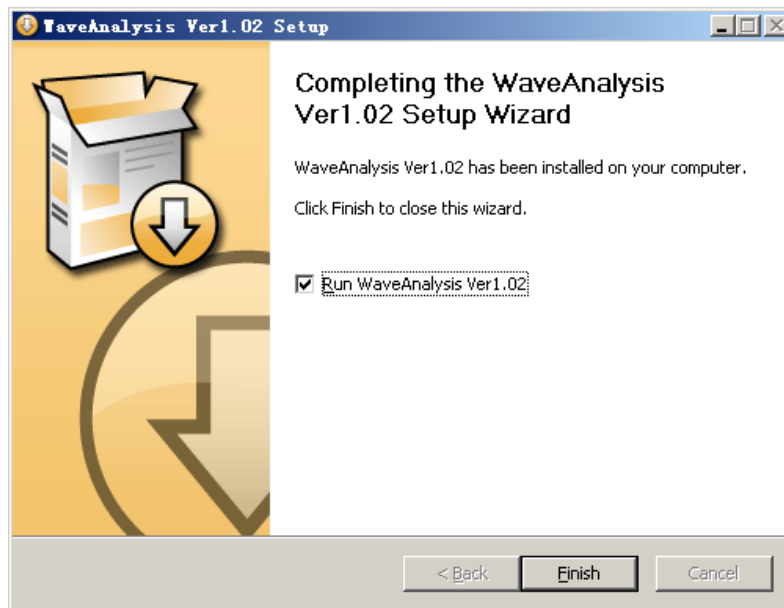

Fig. 1-7
Step six : When automatic installation is complete and the box shown in Fig. 1-7 pops up, click the **FINISH (F)** button shown in Fig. 1-7. Your waveform analysis software is now successfully installed on your computer and ready for use.